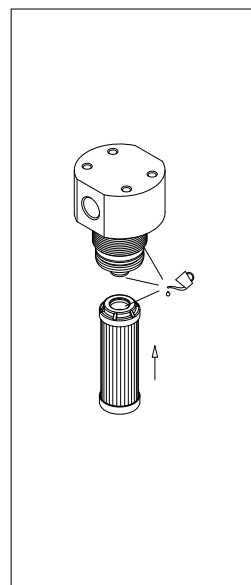

fig. 10
- (Fig. 10) Lubricate with the operating fluid the filter element O-ring, the housing tap and cavity, then fit the filter element on the tap. Pay attention not to damage the O-ring seal